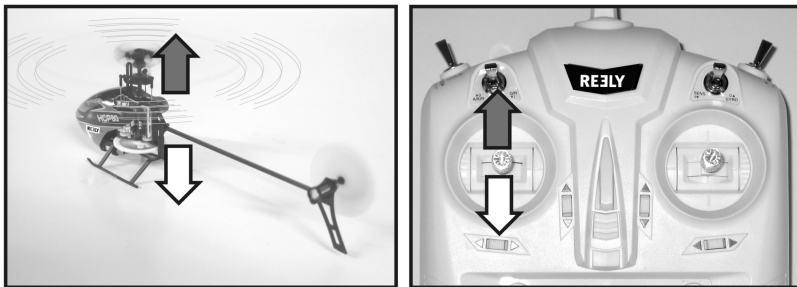

Figure 11
With the pitch function you can control the flying height of the helicopter (see figure 11). The left control stick (also see figure 1, item 17) is used for control. To that effect, the control stick can be moved forward and backward. Unlike the other control functions, the stick does not keep springing back to the centre position.